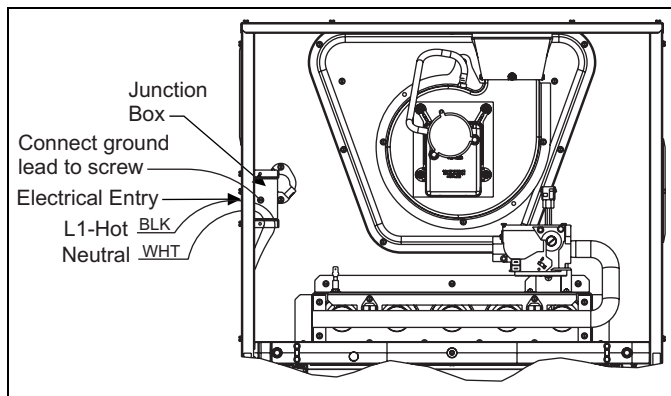

FIGURE 17: Electrical Wiring
2. Remove the screws retaining the wiring box cover. Route the power wiring through the opening in the unit into the junction box with a conduit connector or other proper connection. In the junction box there will be 3 wires, a Black Wire, a White Wire. Connect the power supply as shown on the unit-wiring label on the inside of the blower compartment door or the wiring schematic in this section. The black furnace lead must be connected to the L1 (hot) wire from the power supply. The white furnace screw must be connected to neutral. Connect the power supply ground to the green screw (equipment ground) An alternate wiring method is to use a field provided 2" (5.1 cm) x 4" (10.2 cm) box and cover on the outside of the furnace. Route the furnace leads into the box using a protective bushing where the wires pass through the furnace panel. After making the wiring connections replace the wiring box cover and screws. Refer to Figure 17.
3. The furnace's control system requires correct polarity of the power supply and a proper ground connection. Refer to Figure 17